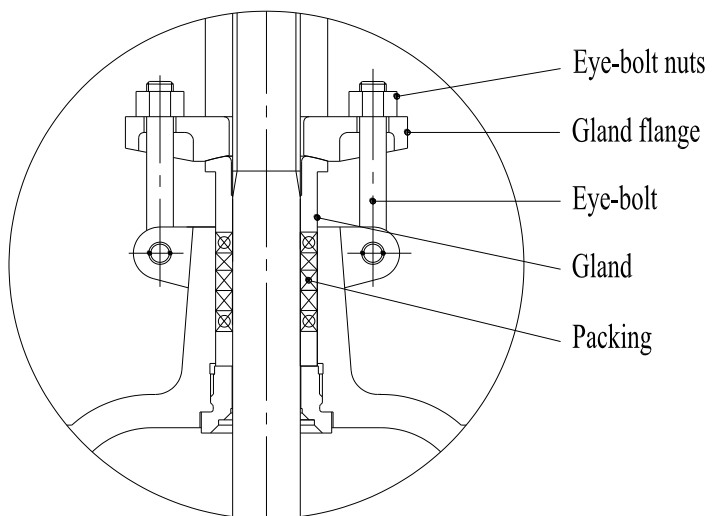

Figure 3 Valve Packing Bore Details
6.3.1 Relieve valve body internal pressure, loosen the eye bolts, and remove the gland flange and packing gland (see Figure 3). Lift the flange and gland as high as possible and secure for easy access to the valve packing.